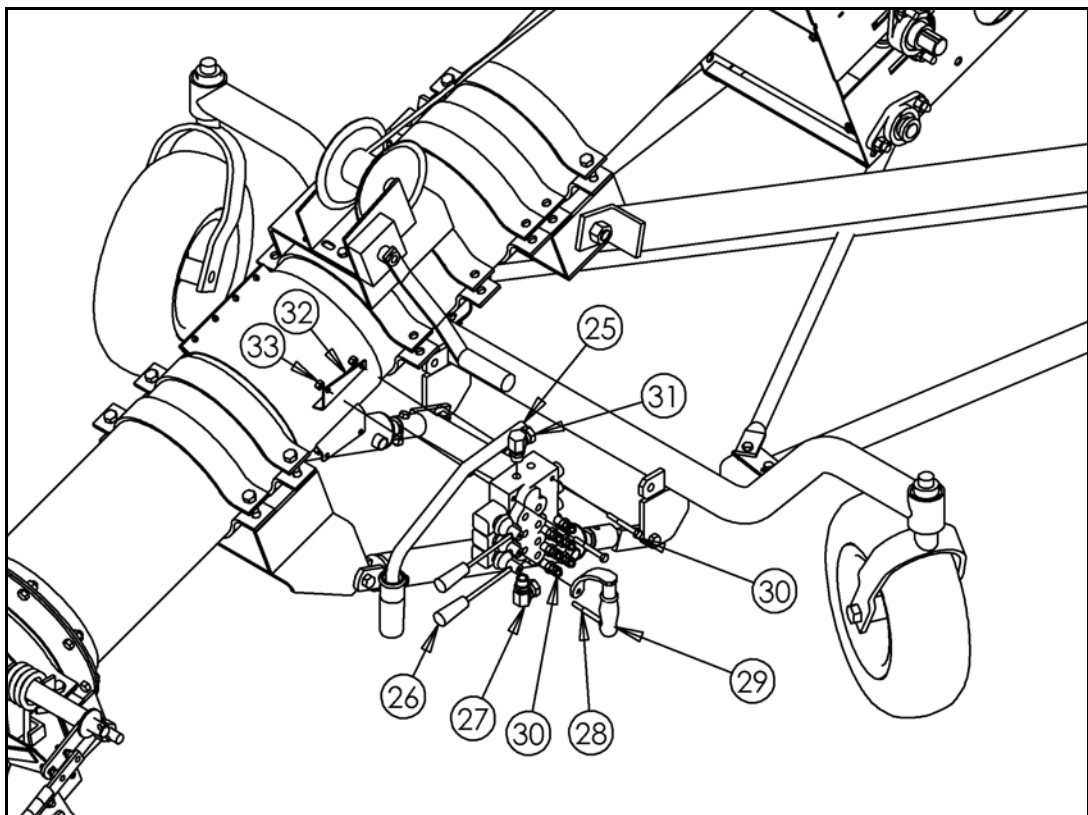

Figure 3.10
- ➔ 7. **Push/Pull Systems:** Bolt the control panel ring (32) to the tube. Do not tighten the bolts yet. Attach parts (25-33) to control panel ring (32). See Figure 3.10. See "Valve" on page 38 for details.